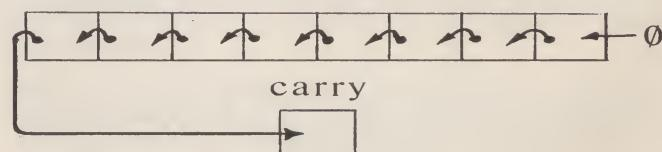

fig1
Because we are doing eight-bit multiplication we will have to test each bit of the multiplier (MPR), but unfortunately there is no instruction with which we can sequentially test the bits. It is only the bits (flags) in the status register (SR) which can conveniently be tested. This is a limitation of most microprocessors, and as a result of this limitation it will be necessary to shift the byte and test the bit. What actually occurs when shifting is that every bit in the byte will move right or left by one position. The bit which is shifted out of the byte, or 'falls' of the end, is placed into the carry bit of the SR. Fig 1 demonstrates the 'shift' (you will note that the figure demonstrates the left shift, or ASL, to study a right shift, or LSR, then simply reverse the direction of the arrows). There are different possibilities depending on the shifted 'bit' but more of this will be discussed later.